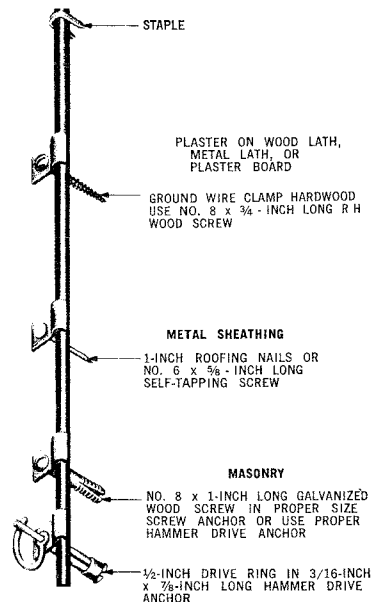

Fig. 12 — Fasteners For Ground Wire
5.01 Fasteners for ground wire and their use are shown in Fig. 12.